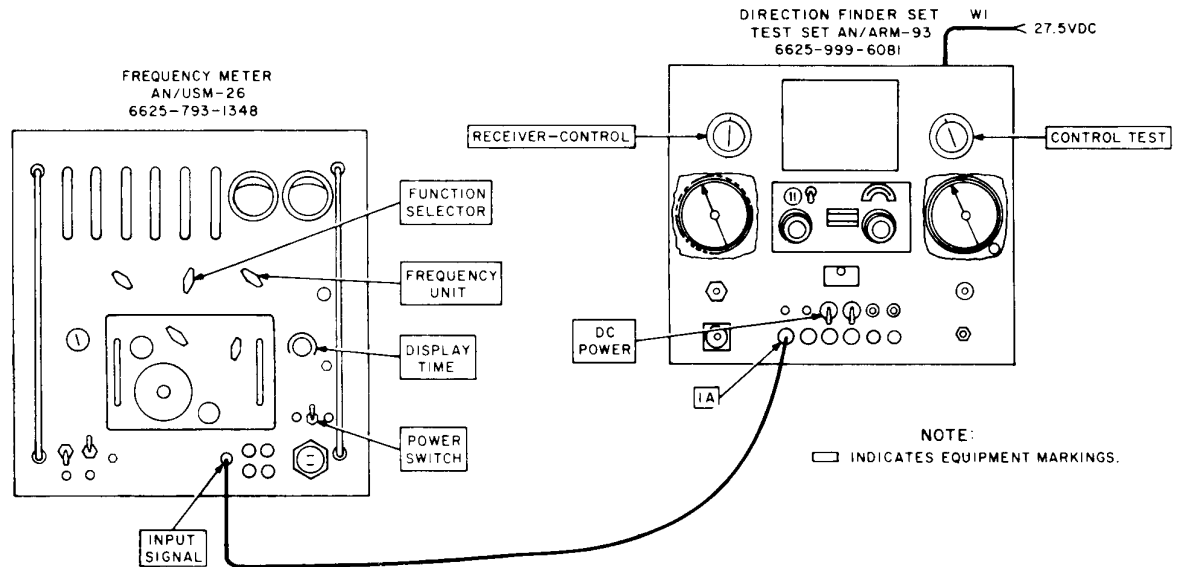

Figure 4. Test equipment connections for frequency measurement of Static Power Inverter CV-2128/ARN-83 output.
- (g) Multimeter should indicate 26 ± 0.5 volts ac. If not perform **b**(1) below.
- (2) Frequency Measurement.
- (a) Connect the equipment as shown in figure 4.